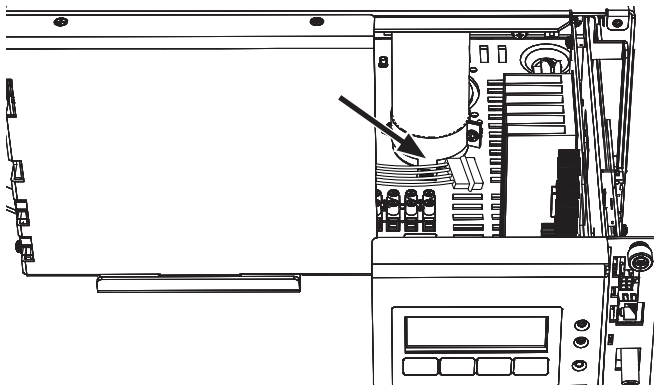

Fig. 2-17, Transformer Harness
1. Remove the inverter module to access the transformer harness (see **Fig. 2-17**).